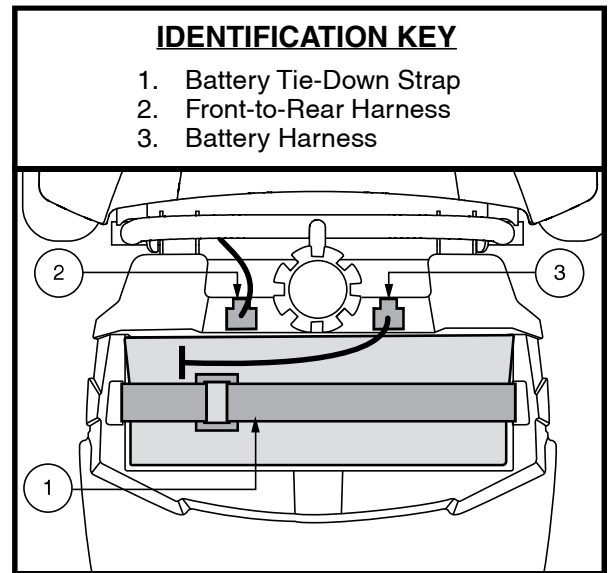

Figure 22. Battery Tie-down Strap
1. Disconnect the battery harness and remove the battery pack from the Travel Scooter. See figure 22.
2. Disconnect the battery harnesses and tie-down strap then remove the battery pack from the Travel Scooter. See figure 22.